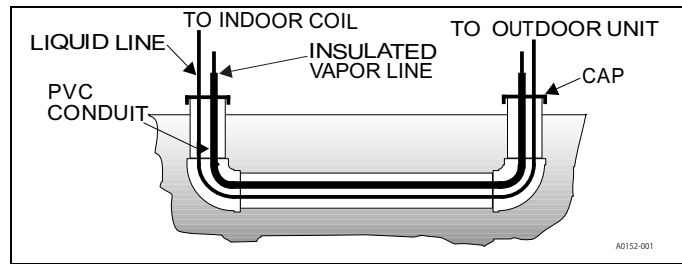

FIGURE 3: Underground Installation
6. Use PVC piping as a conduit for all underground installations as shown in Figure 3 "Underground Installation". Buried lines should be kept as short as possible to minimize the build up of liquid refrigerant in the vapor line during long periods of shutdown